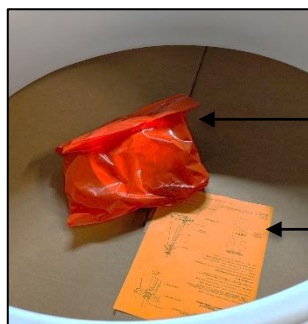

FIG. 7 RED BAG AND
5. INSTALLATION INSTRUCTIONS (shown in FIG. 7) - Please completely read the install instructions before starting installation.
6. RED BAG (shown in FIG. 7) contains below following items: